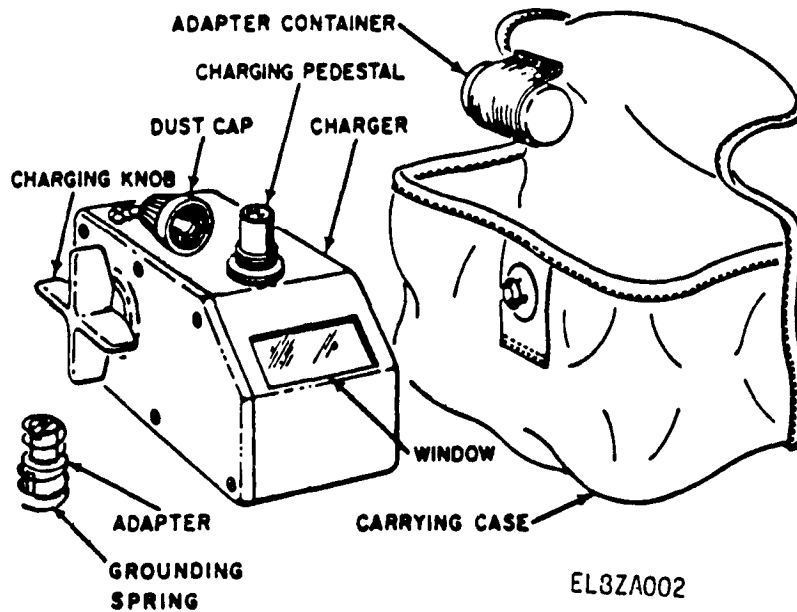

Figure 2. Charger, Radiac Detector PP-1578A/PD.
PP-1578A/PD (fig. 2):
*b. PP-1578A/PD* (fig. 2). The PP-1578A/PD is similar to the PP-1578/PD (*a* above) but has some physical differences that facilitate operation. A charging pedestal is provided instead of a charging socket and no chuck mechanism is used. The charging knob is located on the side of the case. A rectangular window is located in the front end of the case and a prismatic lens system directs light to the bottom of the charging pedestal. The adapter, when not in use, is stored in a separate, cylindrical container. An elastic strap secures the adapter container in the carrying case.
(1) Install the dosimeter in the charger (*h* and *i* above) and turn the charging knob clockwise until the indicating fiber is on the downscale side of 0 on the reticle an amount to the captive jump.
(2) Remove the dosimeter from the charger and observe the reading.
(3) Repeat this procedure ((1) and (2) above) until a 0 reading is obtained after the dosimeter has been removed from the charger. A 0 reading on the dosimeter must be obtained after the dosimeter has been charged and checked or the dosimeter is not charged properly.
**1-14. Operation of PP-1578A/PD (fig. 2).**